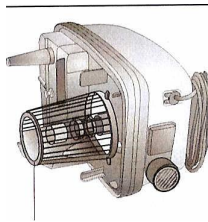

Fig. 24
- Empty the recovery tank (2) and repeat the operation as necessary.
Every time the bottom part of the appliance is cleaned, clean any solid residues off the outside of filter (A) **(Fig. 24)**.